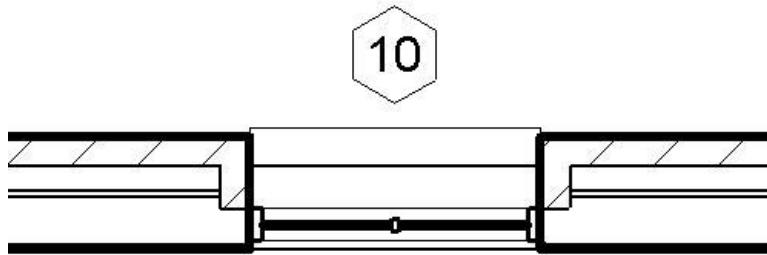

Figure 45. Testing the Window Family.
7. Use the Window tool on the Home ribbon to place an instance of your new window Family in the wall you just created so your screen looks similar to Figure 45.